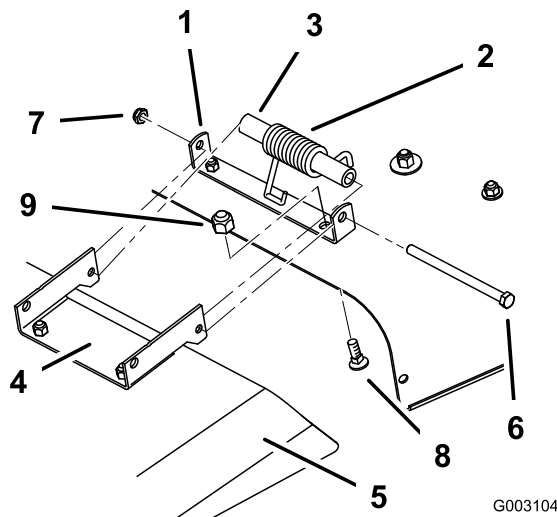

Figure 3
1. Remove the bolt and nut securing the discharge chute to the mower deck (Figure 3). Remove the discharge chute and spring assembly. Retain all parts for future installation.
2. Remove the two carriage bolts and locknuts securing the mounting bracket to the mower (Figure 3). Remove the mounting bracket.